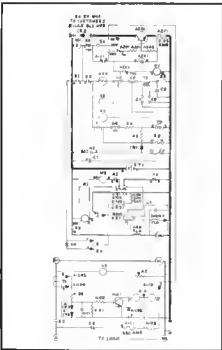

FIGURE 5-5 BILGE BLOWER ON (SPEC D)
- b If necessary to test engine cranking circuit, temporarily bypass blige-blower control relay A-K1 by moving lead at terminal 1 on A-K1 to terminal 3, Figure 5-11. This lead comes from A-1-3 (single lug). If unit cranks with the blige-blower control disabled, the problem is in the blige-blower control circuit. Refer to Figure 5-5.